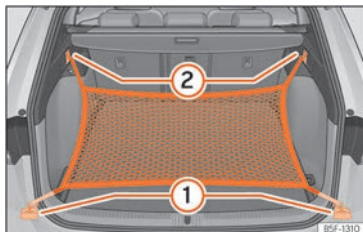

Fig. 120 In the luggage compartment: rings (1) and hooks (2) for attaching the net bag.
- Secure the short net hooks to the fastening rings »» Fig. 120 (1) »» ⚠. The bag zip should be facing upwards.
- Secure the straps in the bag hooks (2).